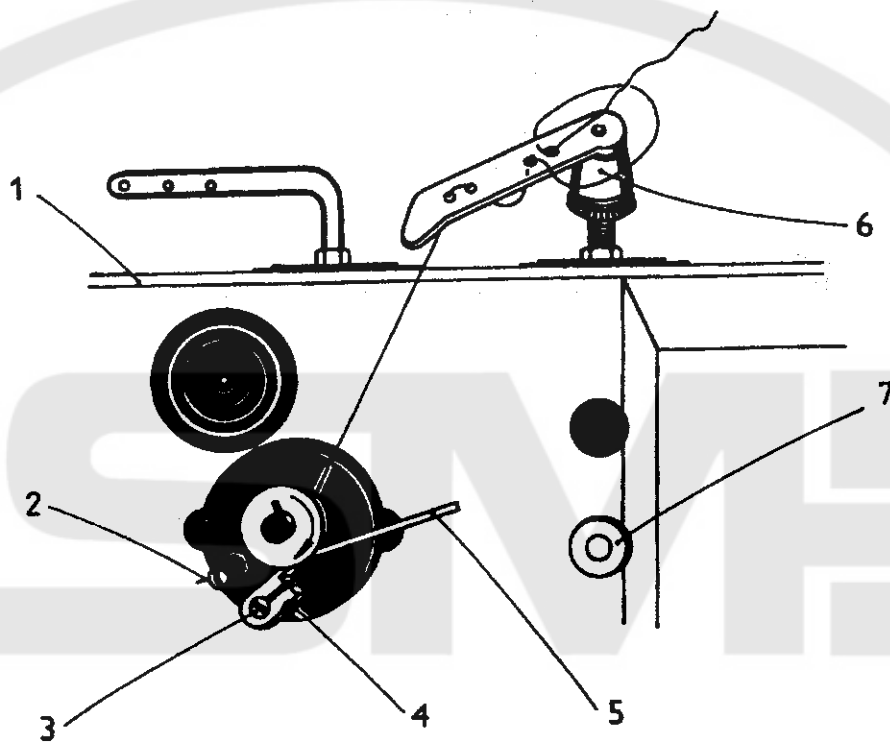

Fig. 5
width within the range prescribed as admissible for the cam in question. The stitch width is steplessly adjustable. To adjust it, remove the cover (3, Fig. 5) on the lever (1) controlling the movement of the needle bar holder, and loosen with a wrench the nut (2) on the bolt (3) on which is mounted the tie rod of the needle bar holder. By displacing the bolt in the notch of the lever downwards, the pattern width is narrowed, by displacing it upwards, it is increased. When increasing the stitch width to its maximum check that the needle does not collide with the throat plate, and fix the chosen position by means of the bolt with the nut. Be sure that the adjusted pattern width lies within the limits specified for the pattern in question in the List of Equipments. With Equipment No. 236, i.e., with the two-needle version, adjust the stitch width so as to let sufficient play for the needles passing through the groove provided in the throat plate.